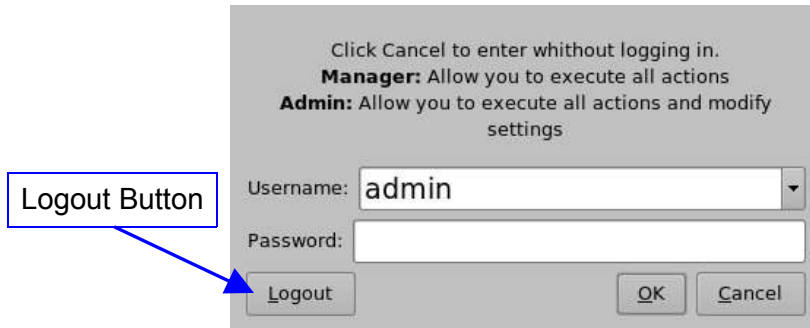

Figure 35: Authentication Window
- The following window will appear (Figure 35):